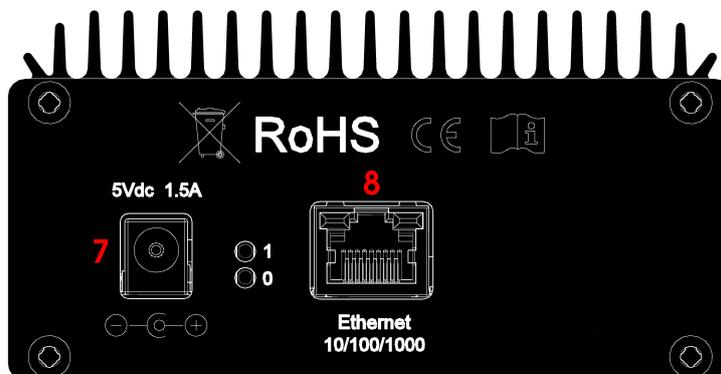

Figure 2: WR-LEN back view.
- Firstly, connect the SFP transceiver and fiber cable to synchronize the WR-LENs (for more info please check out *sfps-info*). Please notice that by default the WR-LEN is configured as slave at port 1 and as master at port 2 (Figure 2). However, the initial configuration can be modified through the GUI command. Once the connection is done you should observe a green LED ON above the SFP. This LED is called *link LED*, while the adjacent one is the *activity LED*.